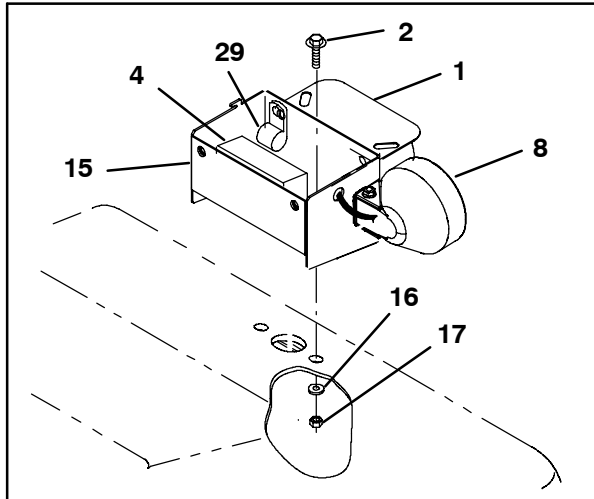
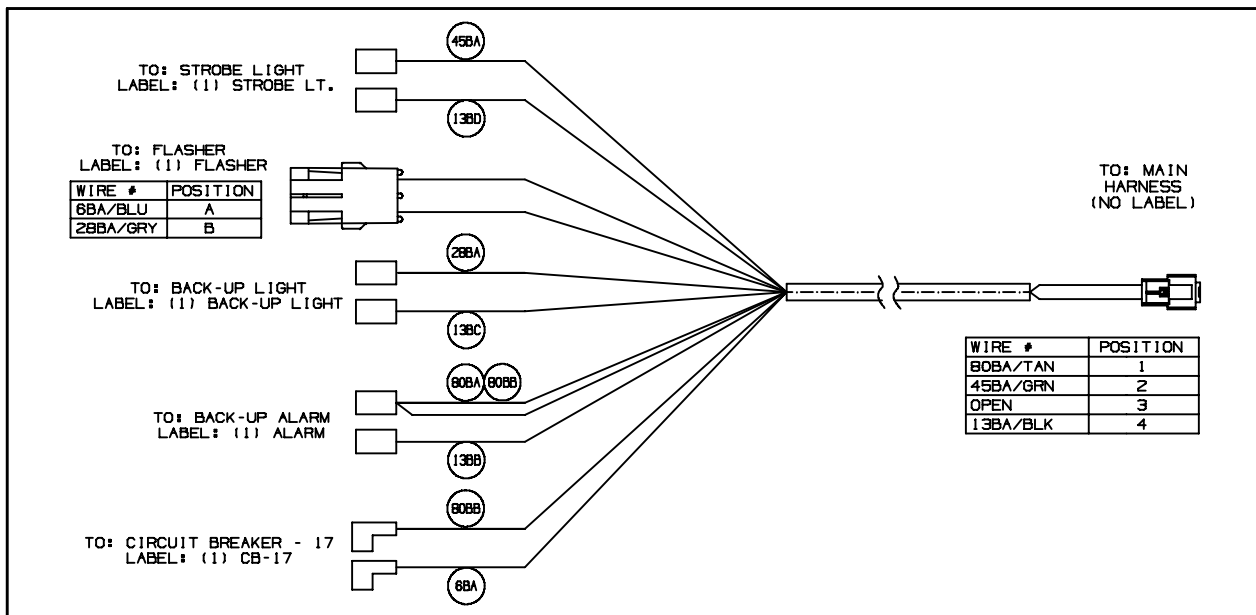
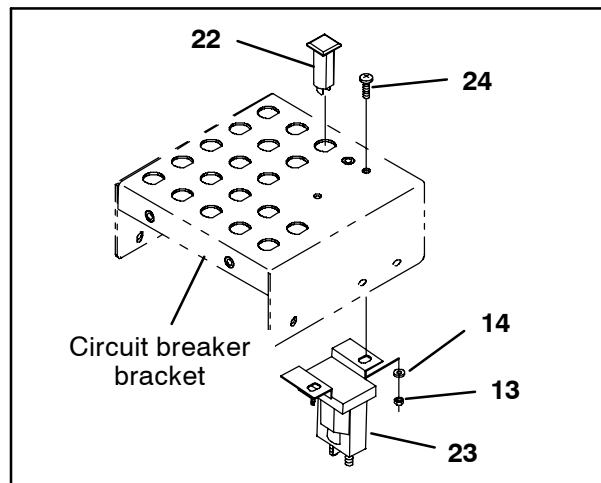
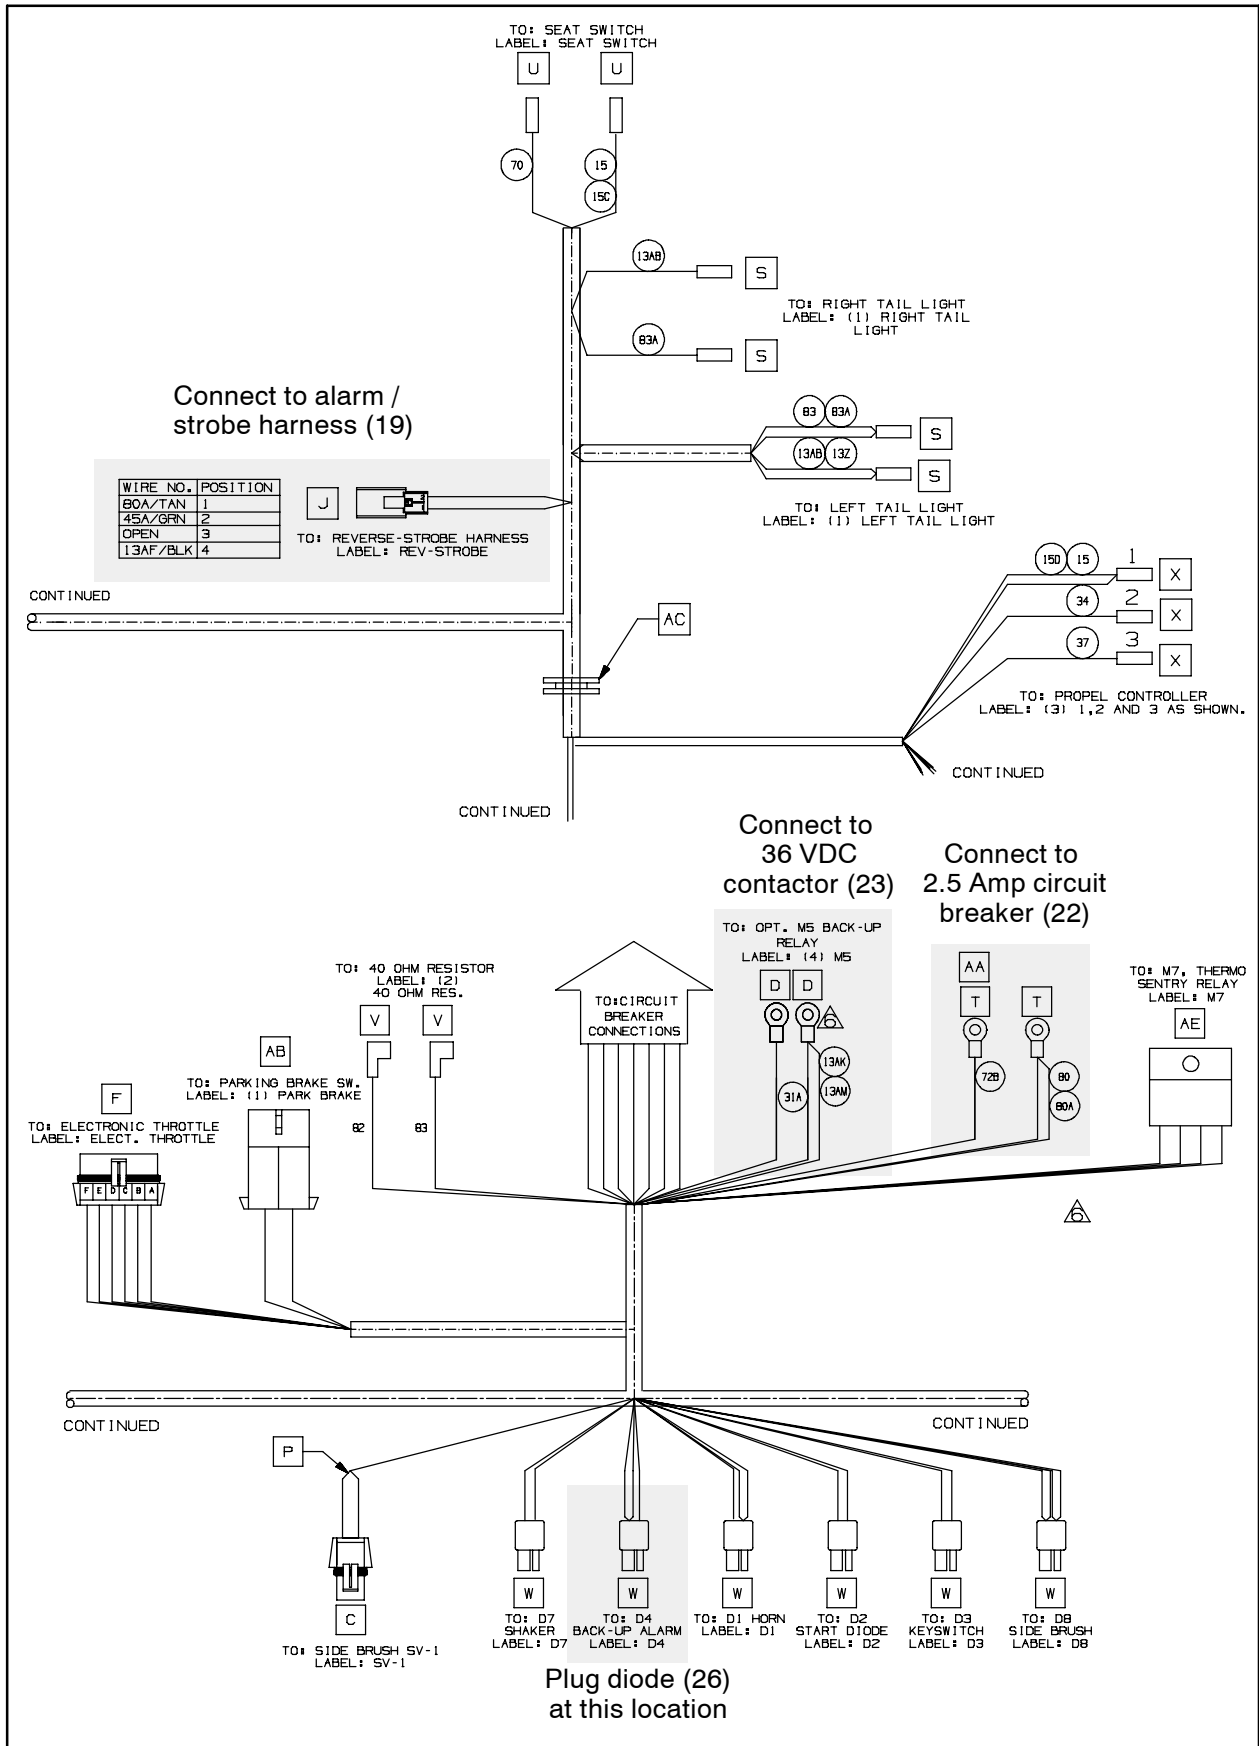

FIG. 5
FIG. 7
FIG. 10
FIG. 11
15. Use two hex screws (2), two flat washers (16), and two hex nuts (17) to install the alarm bracket (15) onto the main cover. Refer to Fig. 5.
16. Route the alarm / strobe harness (19) through the 1.25" hole in the main shroud and into the alarm bracket (15).
17. Remove the hex screw (2) and flange hex nut (3) from the alarm bracket (15), place the p-clamp (29) onto the alarm / strobe harness (19), and use the hex screw and flange hex nut to install the p-clamp onto the alarm bracket. Refer to Fig. 5 and Fig. 7.
18. Connect the alarm / strobe harness (19) to the backup alarm (1), spotlight (8), flasher (4), and 5-Amp circuit breaker (20). Refer to Fig. 5 and Fig. 7.
21. Connect the alarm / strobe harness (19) to the main wire harness. Refer to Fig. 7 and Fig. 11.
28. Use two screws (24), two flat washers (14), and two hex nuts (13) to install the 36 VDC contactor (23) onto the circuit breaker bracket. Refer to Fig. 10.
29. Install the 2.5 Amp resettable circuit breaker (22) into the circuit breaker bracket. Refer to Fig. 10.
30. Connect the main wire harness to the 2.5 Amp circuit breaker (22) and 36 VDC contactor (23) installed in the circuit breaker bracket. Refer to Fig. 10 and Fig. 11.
31. Plug the diode (26) into the main wire harness. Refer to Fig. 11.